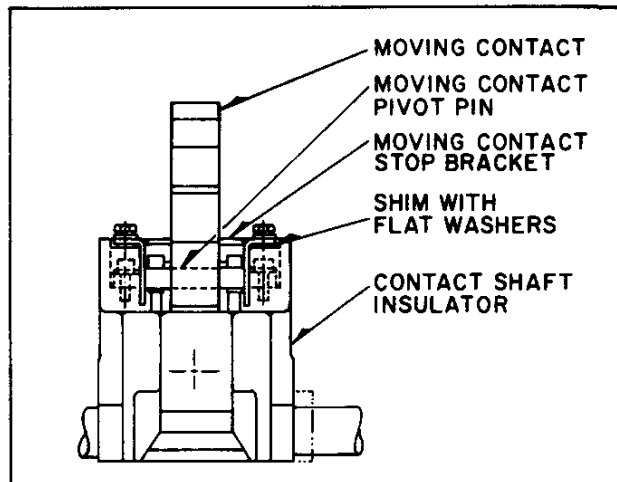

Fig. 10 Moving Contact Adjustment (Dwg 3513C83)
- 4) In the event initial contact forces or contact touch points are not within allowable limits, adjustments may be made by increasing or decreasing the number of flat washers under the stop bracket mounting lugs as shown in Figure 10.